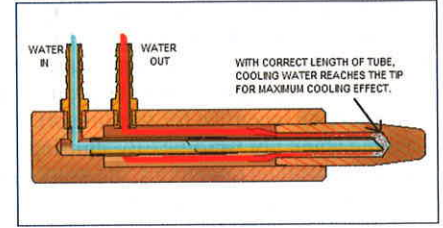

Fig. 2 — Cutting the end of a water tube at a 45-deg angle allows proper water flow.
- If tubes must be replaced, make sure the end is cut on a 45-deg angle to allow for proper water flow — Fig. 2.